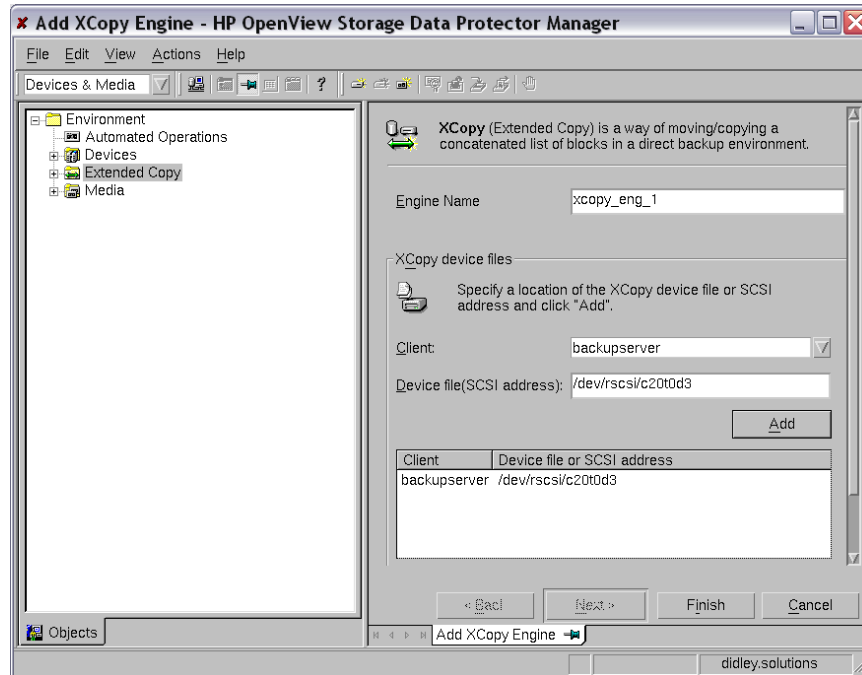

Figure 9: Defining the XCopy engine
- c. Enter the **Engine Name**, **Client**, and **Device file** (see Figure 9).